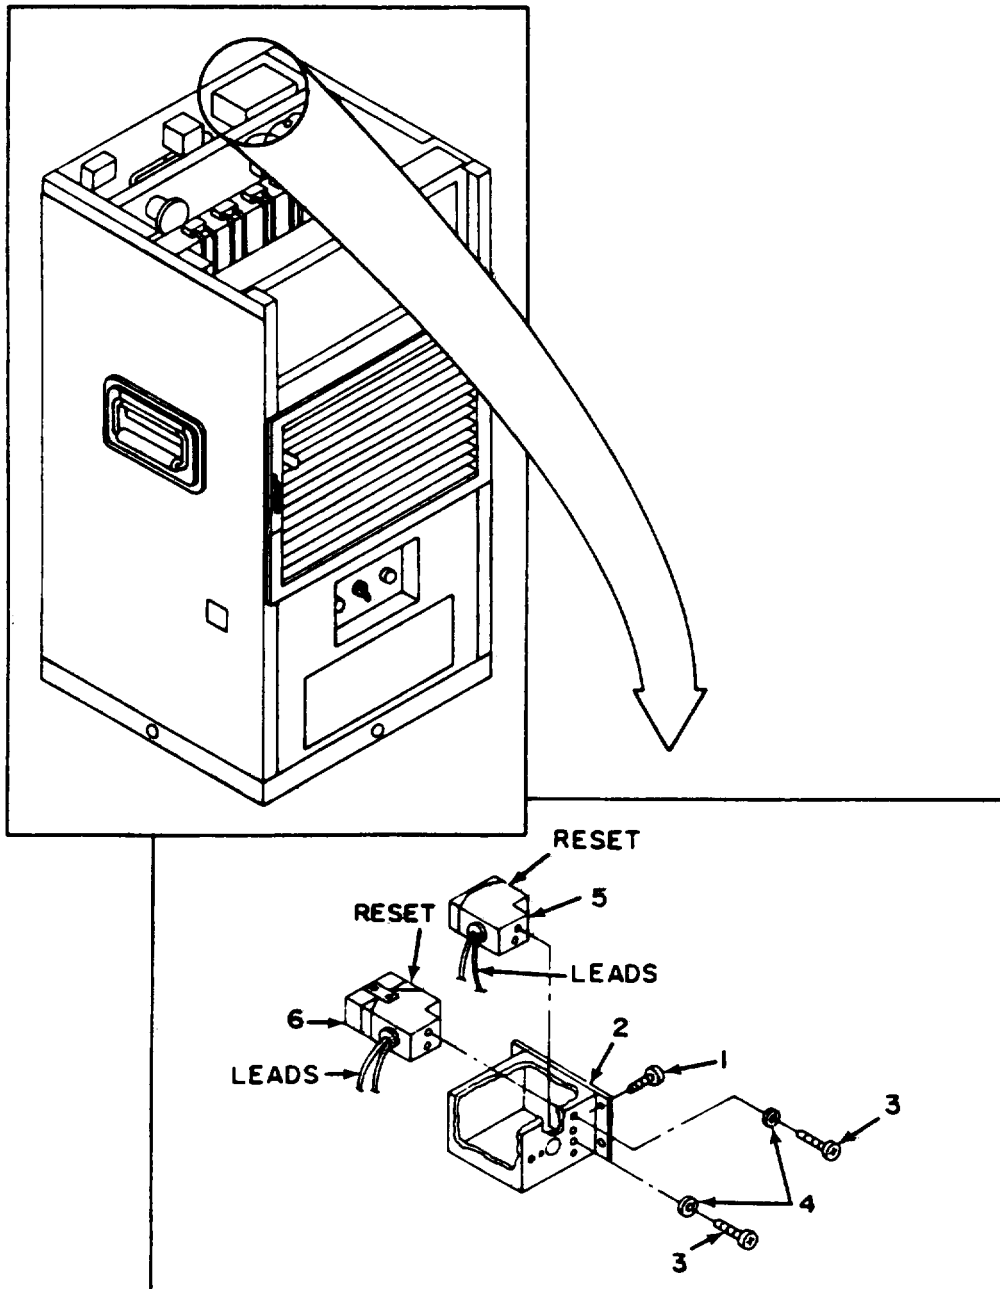

Figure 5-21. High and Low Pressure Cut-Out Switches.
a. INSPECTION. See Figure 5-21.